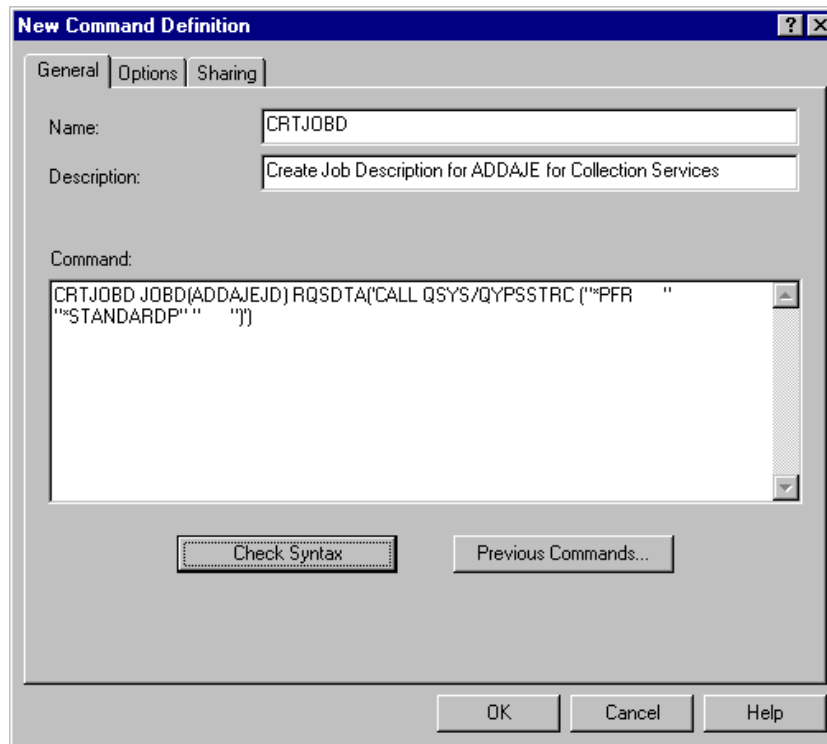

Figure 120. New Command Definition window: `CRTJOB` example
2. On the New Command Definition window create the `CRTJOB` command as described in step 4 in 8.7.1, “Adding an autostart job entry on a single system” on page 146. An example is shown in Figure 120.